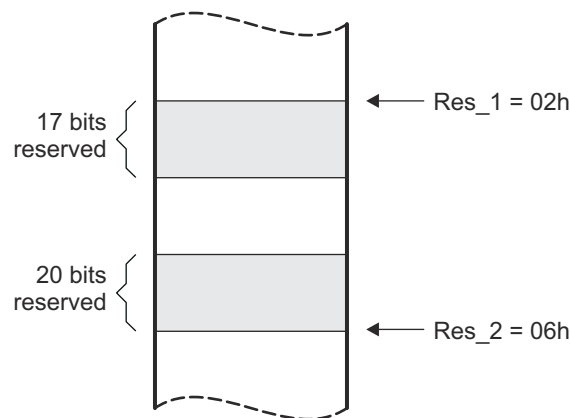

Figure 5-4. The **.space** and **.bes** Directives
- Figure 5-4 shows how the **.space** and **.bes** directives work for the following assembled code: